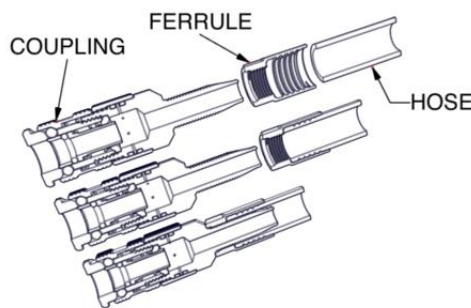

Figure 3-2. Air Hose Quick Connect Safety Coupling
b. **AIR HOSE QUICK CONNECT COUPLING REPLACEMENT.** Refer to figure 3-2 and replace a worn or otherwise damaged air hose quick connect coupling in accordance with the following procedure.